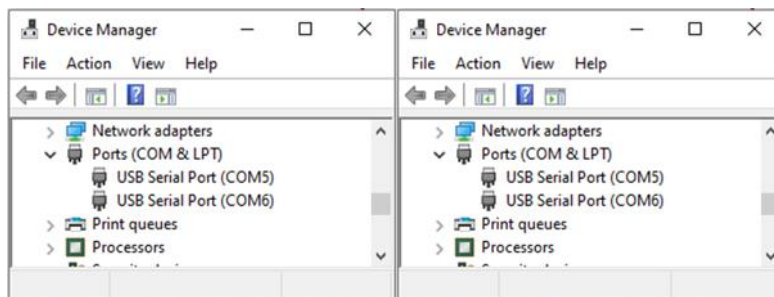

Figure 9. Windows – COM ports
- For Windows, the two COM ports are displayed in the Device Manager (see Figure 9).
The lower numbered COM port (COM5 in Figure 9) is for the DA16200/DA16600 debug interface. The higher numbered COM port is for the DA16200/DA16600 AT command interface.